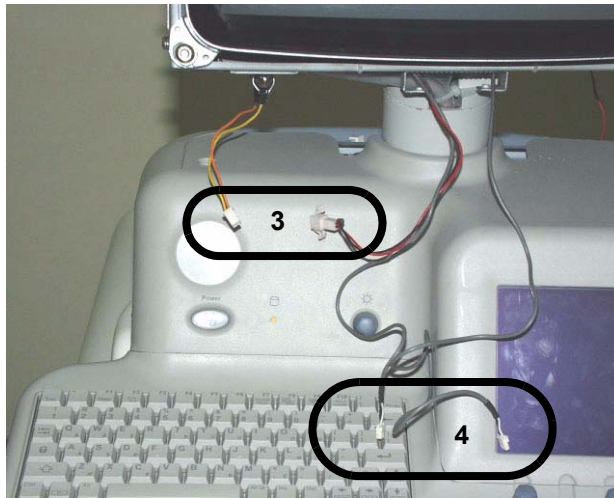

Figure 8-46 Disconnect two connectors
- 2.) Disconnect two (3-4) connectors. Refer to Figure 8-46 on page 8-12 .